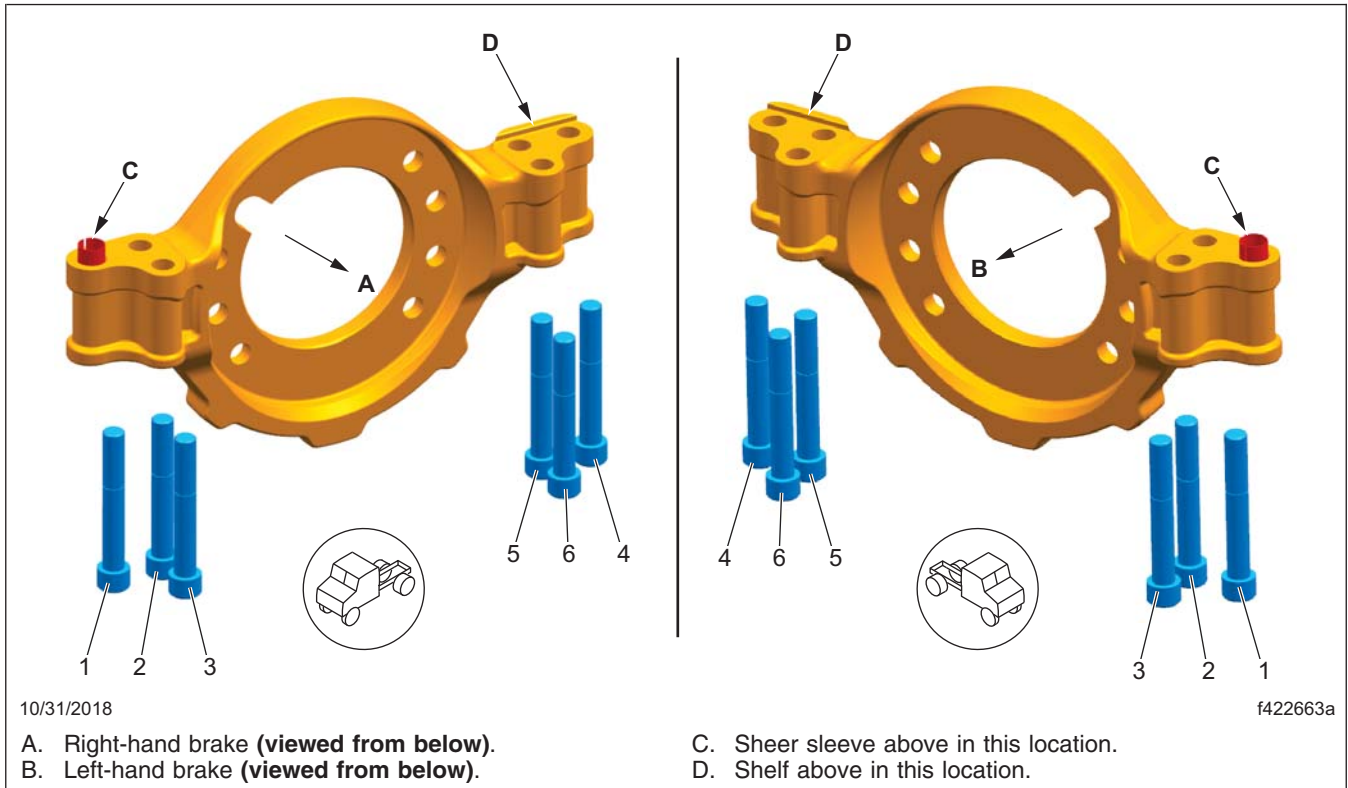

Fig. 5, Tightening Pattern (viewed from below), Bendix Radial Mounted Caliper
10. Tighten the carrier mounting bolts in two steps, using the pattern shown in Fig. 5.